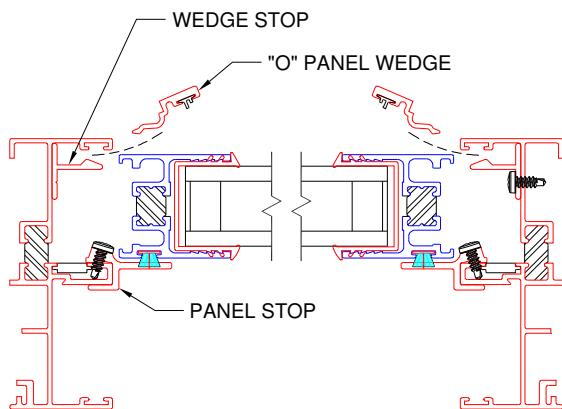

Figure 21:
2. The frame should have panel stops and wedge stops pre-fastened to receive the panelized lite (Figure 21).